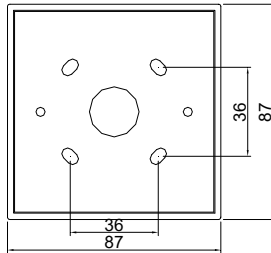

Fig. 1: Back-box dimensions
2. Securely mount the back-box to the wall surface using fixing screws and wall plugs. Fig. 1 shows the back-box mounting hole dimensions.